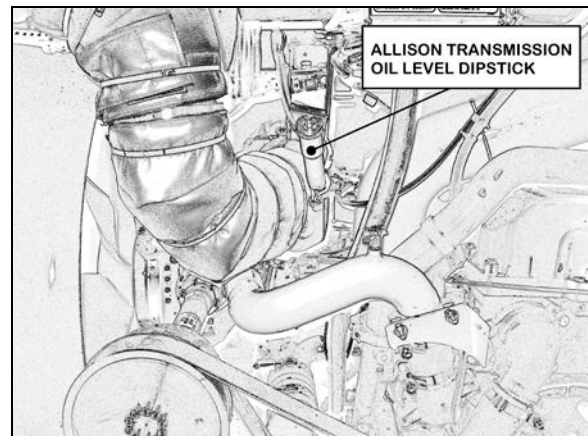

FIGURE 4: OIL LEVEL DIPSTICK (AUTO. TRANS.) 07113
To gain access to the dipstick, open the engine compartment rear doors; dipstick is located on the radiator side of the engine (Fig. 4).
3. Shift to Drive (D) and operate the engine for 30 seconds at 1000-1500 rpm; then shift to Reverse (R) to clear the hydraulic system of air.
5. Finally shift to Neutral (N) and allow the engine to idle (500 - 800 rpm).
6. While the engine is running, remove the dipstick from the tube and wipe it clean (Figs. 4 & 5). Insert the dipstick into the fill tube, pushing down until it stops.